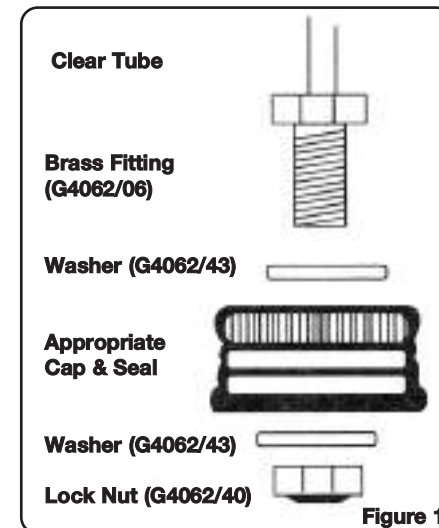

Figure 1
1. Remove the vehicle's reservoir cap and select the appropriate screw cap and connect it to the device as shown in the diagram (Figure 1). Then connect to the reservoir.